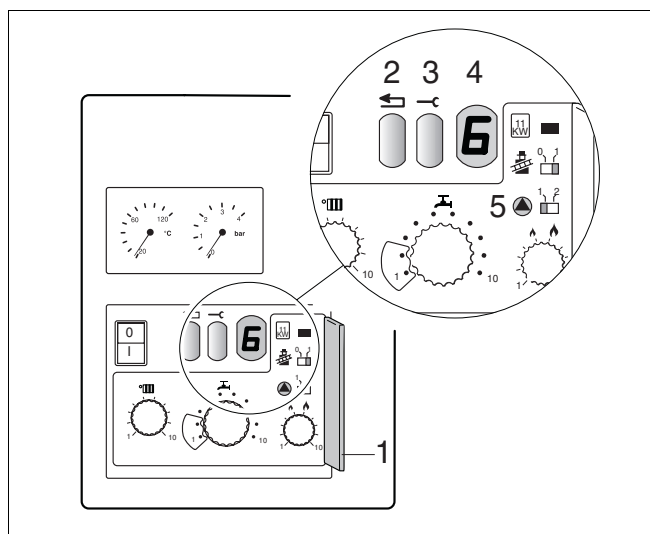

Fig. 9 2nd control box
- Open cover for 2nd control box (fig. 9, item 1).
- Move switch to  position “2” (pump post-purge period 24 h) (fig. 9, item 5).